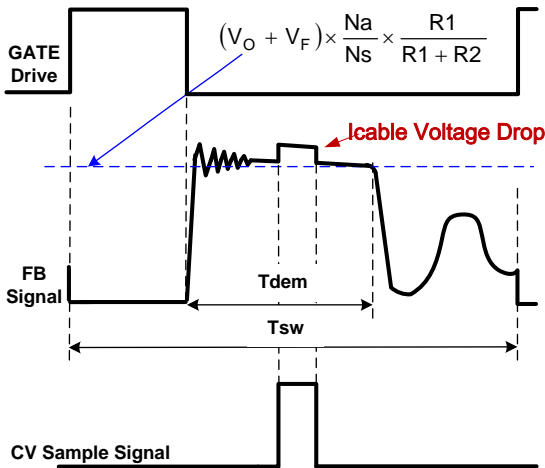

Fig.2
In primary side control, the output voltage is sensed on the auxiliary winding during the transfer of transformer energy to the secondary. Fig.2 illustrates the CV sampling signal timing waveform in KP214LG. As shown in Fig.2, it is clear that there is a down slope representing a decreasing total rectifier V_f and its voltage drop as the secondary current decreases to zero. To achieve an accurate representation of the secondary output voltage on the auxiliary winding, the CV sampling signal blocks the leakage inductance reset and ringing. When the CV sampling process is over, the internal sample/hold (S&H) circuit captures the error signal and amplifies it through the internal Error Amplifier (EA). The output of EA is sent to the Primary Side Constant Voltage Modulator (PS-CVM) for CV control. The internal reference voltage for EA is trimmed to 2V with high accuracy.
During the CV sampling process, an internal variable current source is flowing to FB pin for Cable Drop Compensation (CDC). Thus, there is a step at FB pin in the transformer demagnetization process, as shown in Fig.2. Fig.2 also illustrates the equation for “demagnetization plateau”, where V_o and V_f is the output voltage and diode forward voltage; R1 and R2 is the resistor divider connected from the auxiliary winding to FB Pin, N_s and N_a are secondary winding and auxiliary winding respectively.